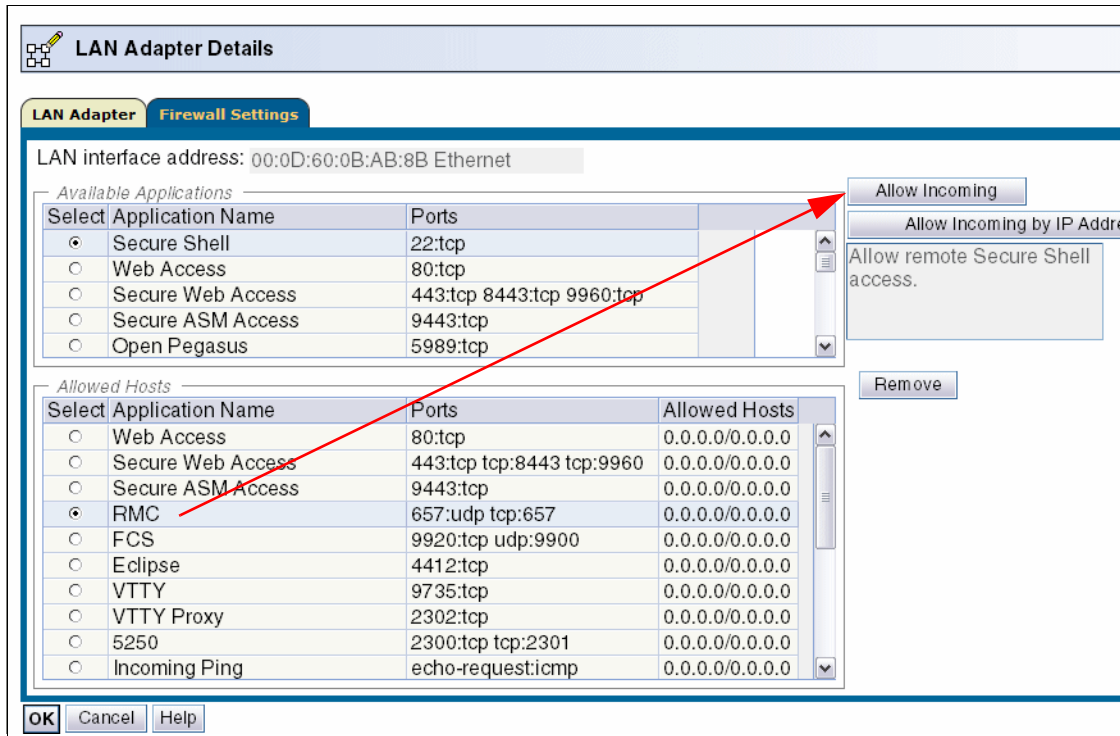

Figure 4-12 Customize Network Setting - LAN Adapters - enabling the RMC application
- Click the Firewall Settings tab, scroll down the Available Applications area to see whether RMC is already specified as available. In this example, we assume that RMC has not yet been made available. Therefore, select **RMC** in the Allowed Hosts pane and click **Allow Incoming**, as shown in Figure 4-12.